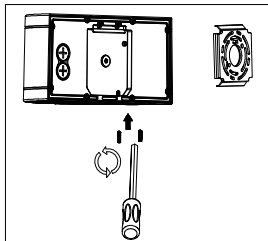

Fig 1
1. Use the Hex Wrench to loose the 2 Allen Screws. And take apart the mounting bracket from the fixture. (Fig 1)